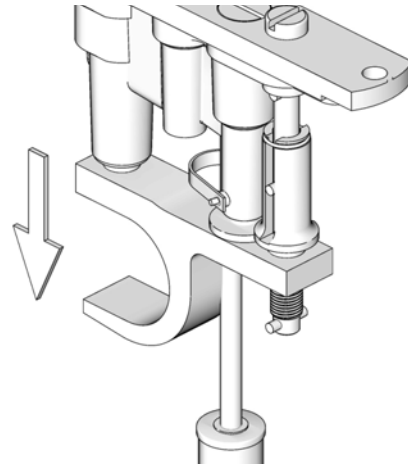

FIG. 7
1. Before replacing pump, position yoke down as far as possible (FIG. 7).